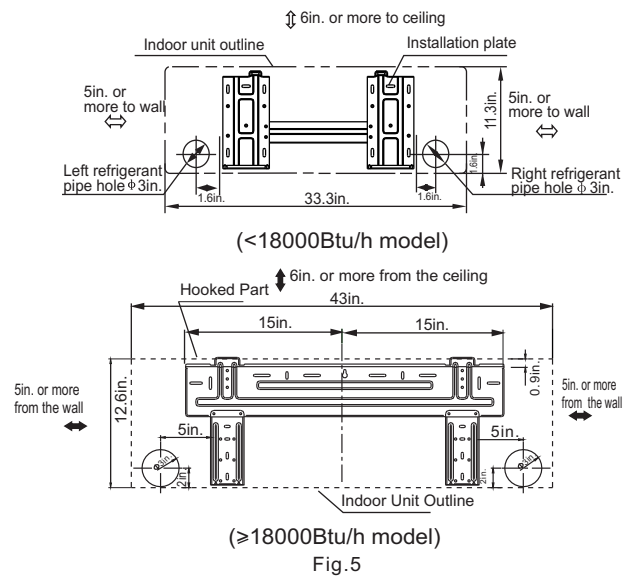

Fig.5
1. Determine hole positions according to the diagram detailed in Fig.5. Drill one (1) hole (ϕ 3in.(65mm)) slanting slightly to outdoor side.